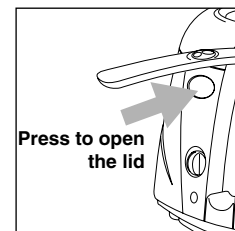

fig. 2
- Open lid by pressing button (fig.2).